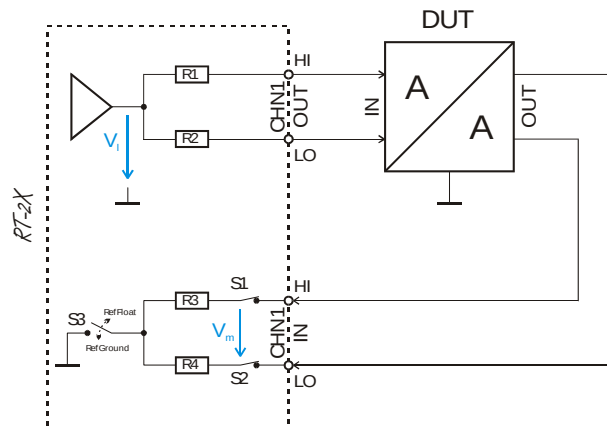

Fig 40 LCTL Measurement of an A-A Device
1. Connect RT-2X to the DUT (Fig 40).